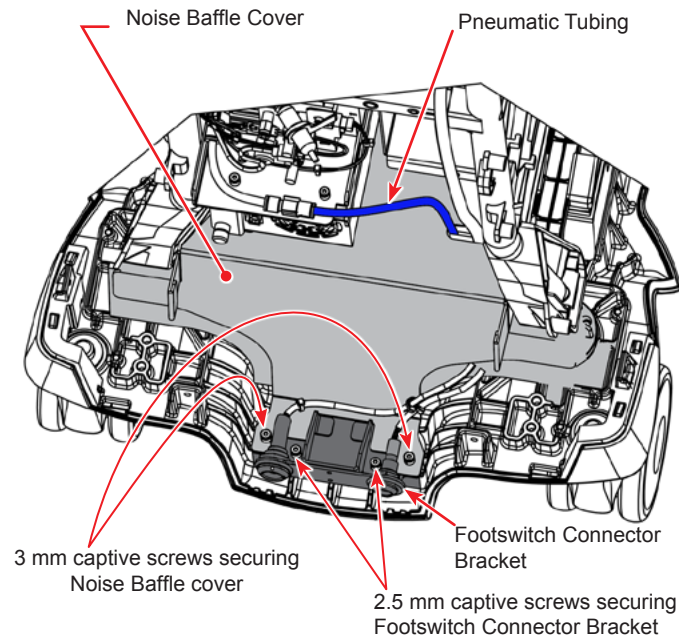

Figure 3-46 Noise Baffle Cover Removal
- 39.7 Disconnect blue pneumatic tubing from Pneumatic Manifold (see Figure 3-46).
- 45.6 Loosen two 3 mm captive screws securing Noise Baffle cover to footswitch connector bracket (see Figure 3-46).